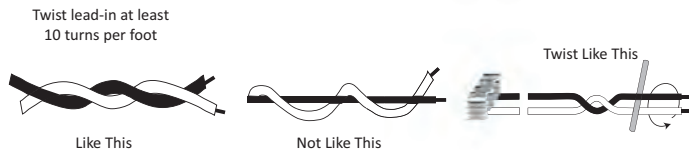

Figure 63. Wire Twist Lead-ins
7. Twist loose tails of lead-in wires tightly, approximately ten times per foot. See Figure 63.